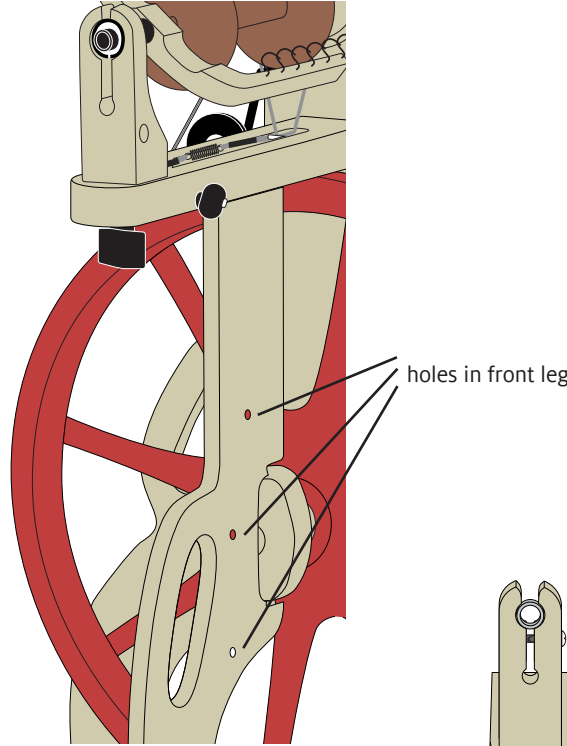
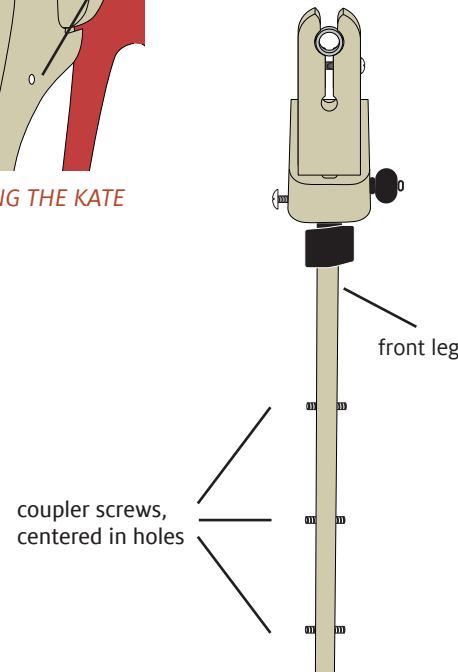

FIGURE 1: INSTALLING THE KATE
FIGURE 2: INSTALL COUPLER SCREWS
1. Insert coupler screws into the three holes in the front leg (Figure 1), centering the screws in the holes (Figure 2).